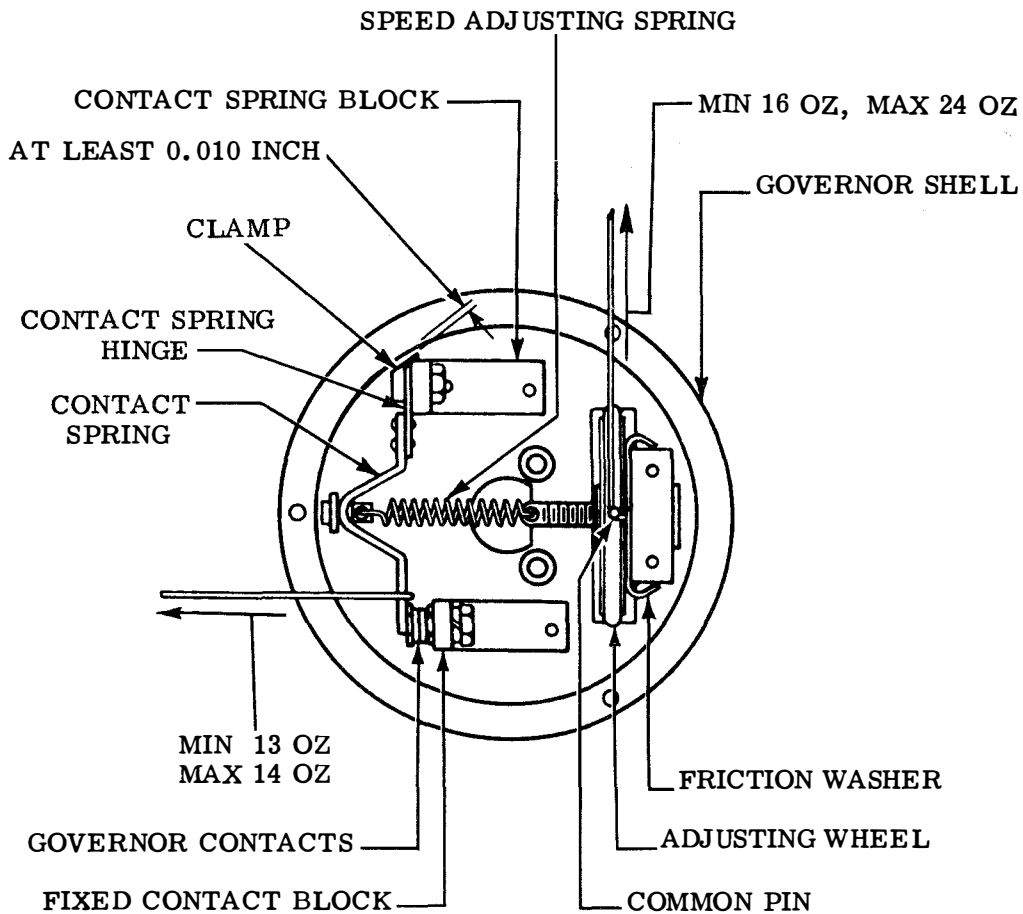

Figure 7 - Center Contact Governor Assembly
To Adjust: Position the contact-spring block by means of its mounting screws. On governors having peripheral or edge-contacting slip rings, note that this gap is free of dirt and metal particles which may tend to short-circuit the rings and the governor contacts. See Figures 7 and 16(B).
To Adjust: Remove the friction washer and bend the large projections. (See Figure 7.)
(8) Adjusting Governor Speed: With the motor at rest, turn the adjusting wheel (Figure 7 or 16) as indicated by the letters S and F to decrease or increase the speed respectively. On two-speed governors, the
outer adjusting wheel is for adjusting the high speed, and the inner adjusting wheel is for adjusting the low speed. As the inner adjusting wheel is not very accessible, a screwdriver or other slender object should be used to engage it. Tuning fork TP103628 (87.5 V. P. S.) is recommended for setting the speeds, as explained in the section covering the speed regulation of teletypewriter apparatus. (See Figures 7 and 16.)